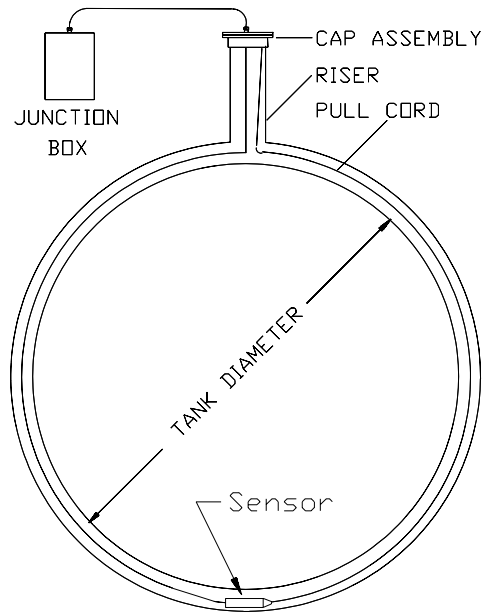

Figure 14: Typical Interstitial Sensor Installation
1. See Figure 14. Determine tank inside diameter (TD).
2. Measure the riser height (RH) from top of tank to cap assembly.
3. Multiply the tank diameter (TD) x 1.57 and add the riser height (RH).